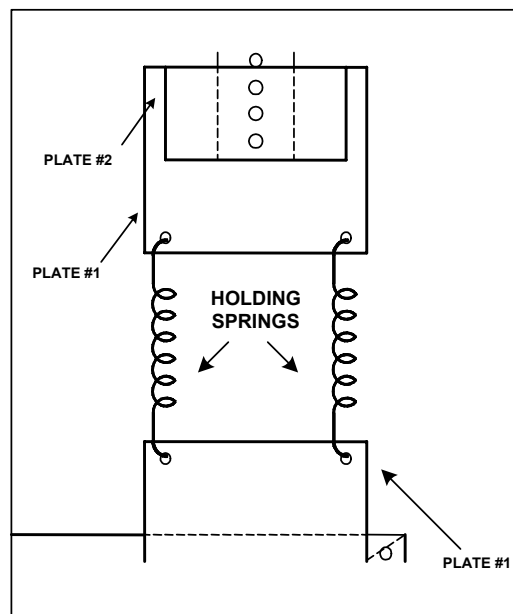

Figure 1-25
- Pull the bottom support bracket plate #1 down and secure it to the bottom support bracket. Verify the springs are approx. 1.5 times their original lengths, move the bottom support bracket if required [See Figure 1-25.]